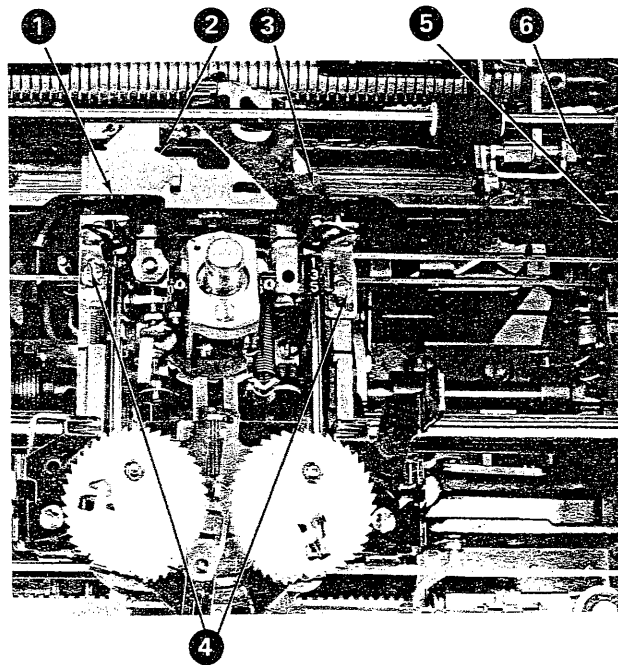

Figure 4-57. Escapement-Bracket Removal
2. Remove the platen, deflector, and feedrolls. Remove the ribbon-lift spring. Remove the tab retaining plate (No. 1, Figure 4-57).
5. Remove the remaining rear escapement-bracket screw; the one holding the tab gang-clear finger (No. 3, Figure 4-57).
6. Remove the two front escapement-bracket screws that hold the card holder (No. 4, Figure 4-57).
7. Remove the tab-link clevis from the right end of the torque bar (No. 5, Figure 4-57).
8. Remove the tab-torque-bar retainer clip from the right end of the tab torque bar (No. 6, Figure 4-57).